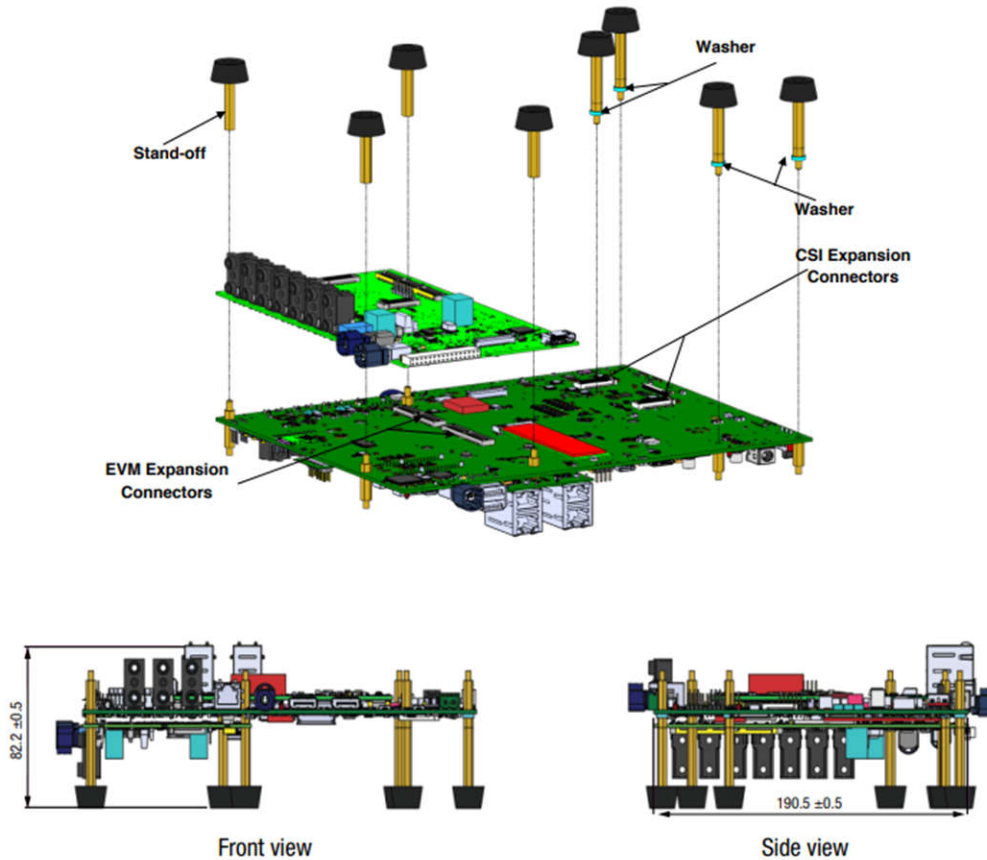

Figure B-1. Installing the Infotainment Expansion Board Onto the Common Processor Board
1. Remove the stand-offs (8x) from the EVM. Mate the Infotainment Expansion Board onto the common processor board expansion connectors (see Figure B-1 left).
3. If a CSI expansion board is not connected to the CSI expansion connectors on the common processor board, add a 2mm thick washer to each of the four stand-offs (see Figure B-1 right) on the common processor board. Washers are included in the kit.